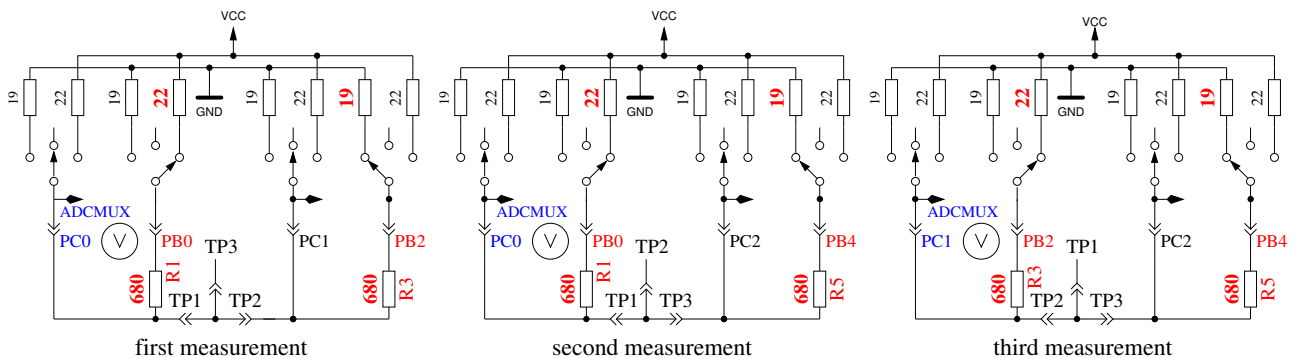

Figure 5.42: Comparison of 680Ω resistors
- Comparing of the 680Ω resistors.** In row 1 the cryptic text “+RL- 12 13 23” is shown. Meaning of this is as follows: The RL is the short form of Resistor Low meaning the 680Ω resistors. The 12 stand for: resistor at pin 1 is connected to VCC (+) and resistor at pin 2 is connected to GND (-). The result of this measurement is displayed in row 2 at the first place as difference to the theoretical value. In row 1 follows now a “13” which means, that the first connection of measurement 1 is still connected with 680Ω to VCC but that the resistor of pin 3 is connected to GND. The result is displayed in the middle place of row 2 as difference to the theoretical value. The last measurement of this test “23.” means that now the resistor at pin 2 is connected to VCC (+) and the resistor of pin 3 is connected to GND. The result of measurement is displayed at the last place of LCR row 2 as difference to the theoretical value. Please remember, that the resolution of the ADC is about 4.88mV! The measurement situation is also shown in figure 5.42. The theoretical value with respect to the internal resistance of the pins should be:  $\frac{5001 \cdot (19+680)}{(19+680+680+22)} = 2493$ .